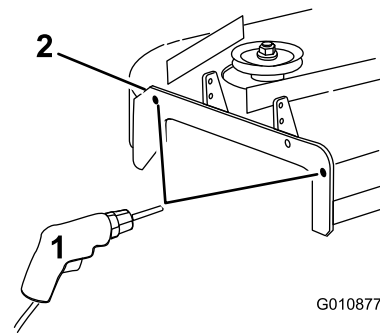

Figure 7
1. Check the hole diameters in the locations shown in Figure 7.
3. Drill the holes to the specified diameter in the locations shown in Figure 7.